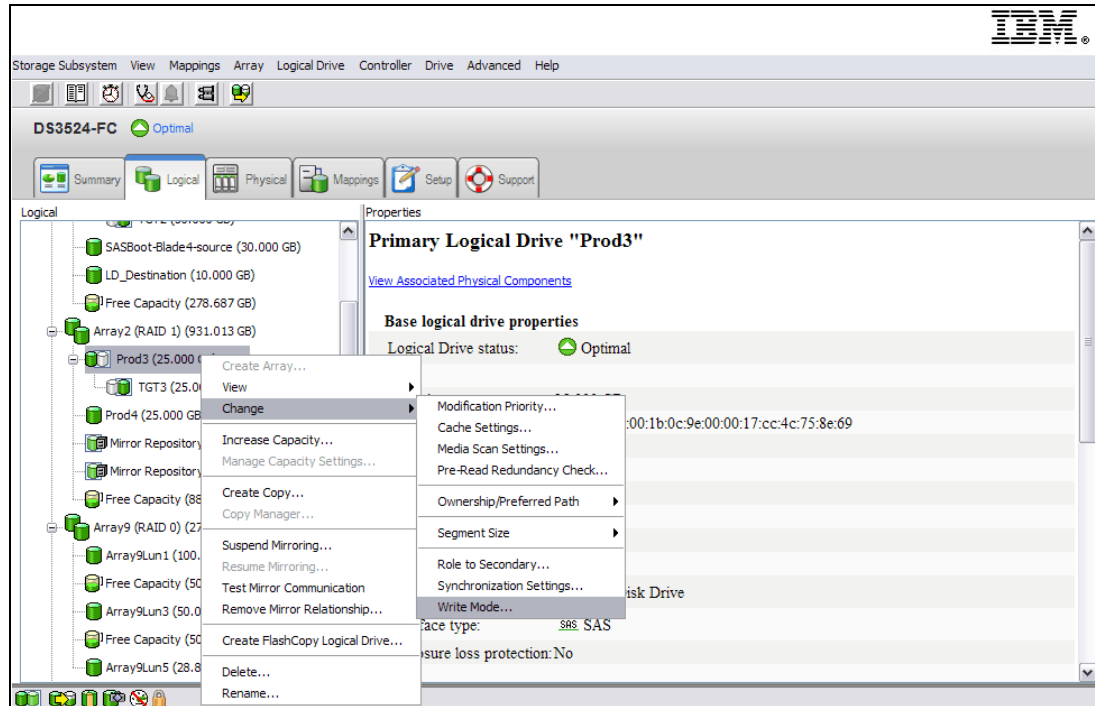

Figure 5-31 Changing write mode
1. Select a primary logical drive in the Subsystem Management window logical view. Then, select **Logical Drive** → **Remote Mirroring** → **Change** → **Write Mode**. (Or, right-click and select **Change** → **Write Mode** from the pop-up menu.) See Figure 5-31.